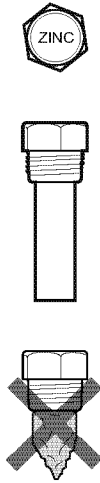
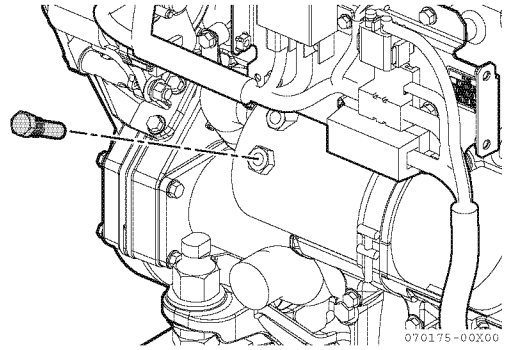
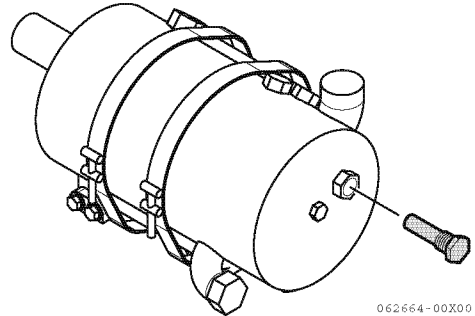
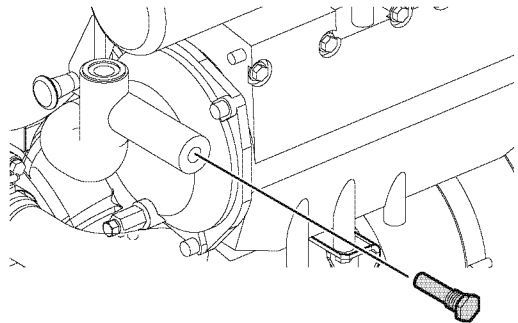

Figure 10
Figure 11
Figure 12
Figure 13
3. Remove all the plugs (**Figure 11**), (**Figure 12**) and (**Figure 13**) labeled ZINC (**Figure 10**).